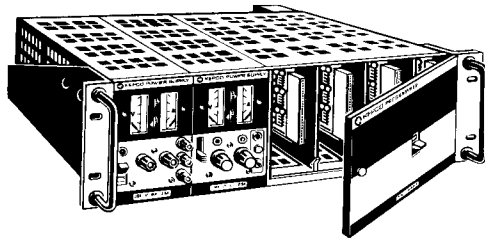

FIG. 1-2 KEPKO MODEL SNR 488-4 RACK HOUSING.
- 1-9 **Kepco Model SNR 488-4**, with built-in interface card, is a 19" rack housing with slots for four (4) programming cards and with room for either two (2) "quarter rack" or one (1) "half-rack" Kepco power supply (see FIG. 1-2).